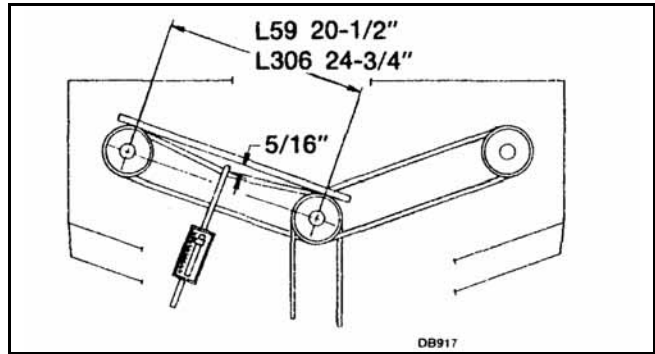

Figure 2. Proper Belt Tension
**BELT TENSION (SEE FIGURE 2)**